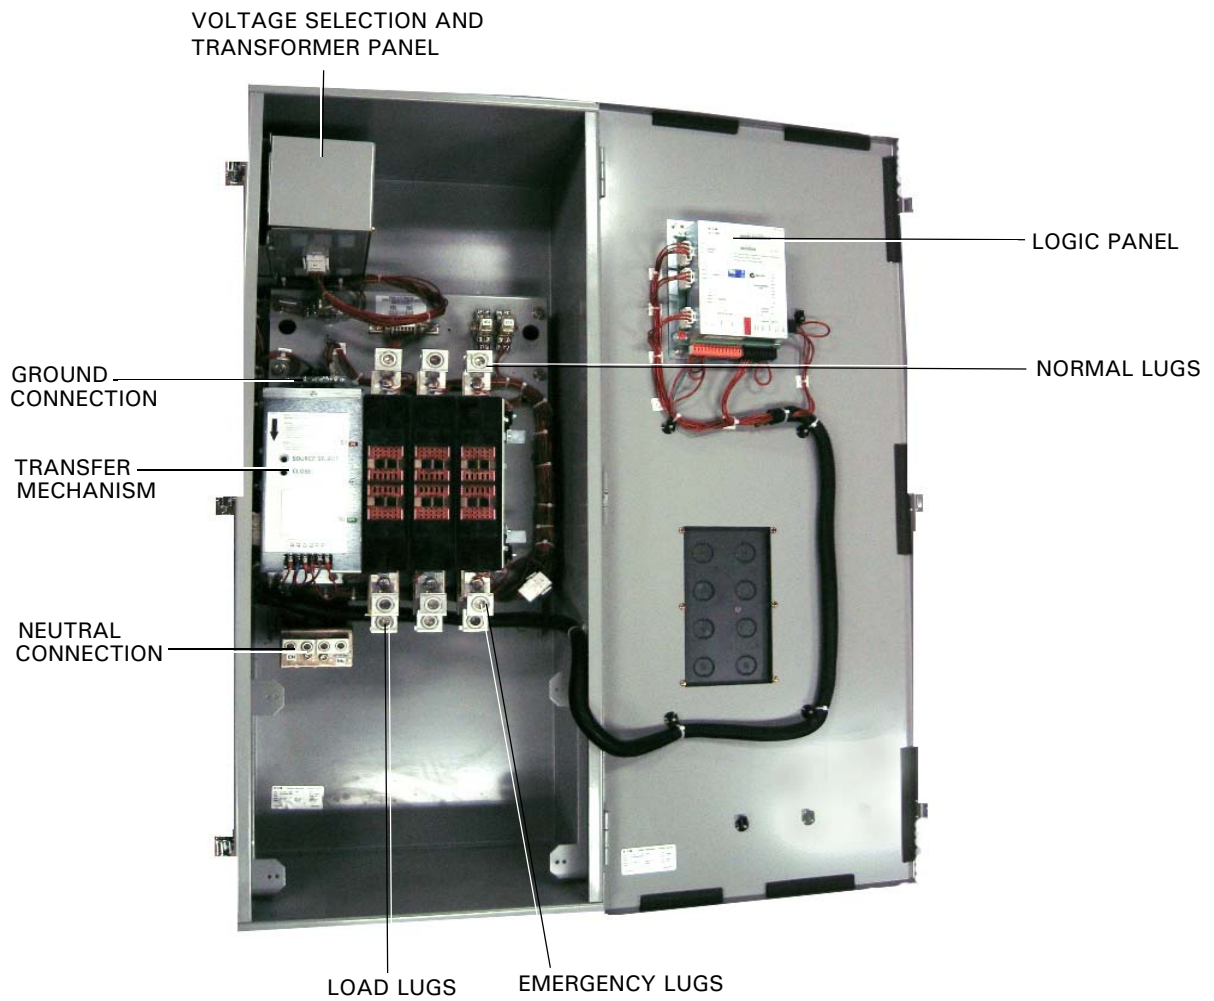

Figure 21. 400A, 3-Pole, ATS Interior Components.
For 4 pole transfer switches, connect the load cables (TN), Source 1 or utility supply (NN), and Source 2 or generator supply (EN). Refer to Figure 21 for the location of all parts discussed in this document.
*Load cables MUST be connected and torqued BEFORE installing the SUPPLY cables (Figures 21).